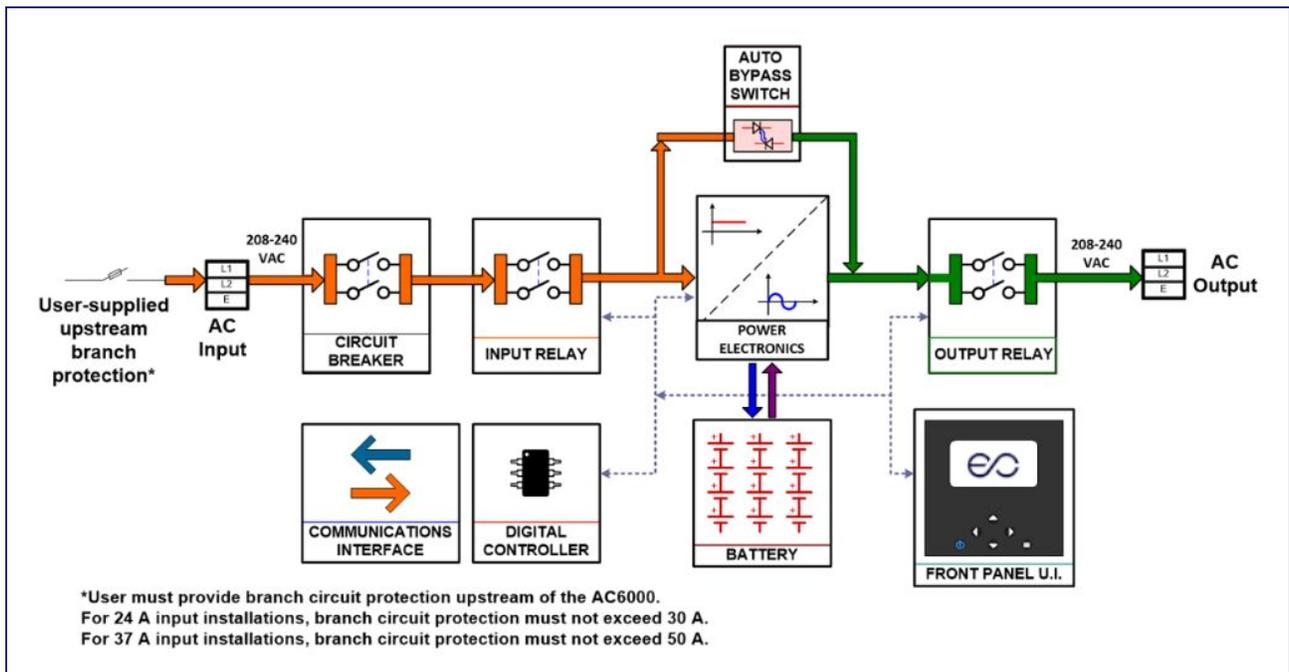

Figure 2.1-2: AC6000 System Overview
- Figure 2.1-2: AC6000 System Overview